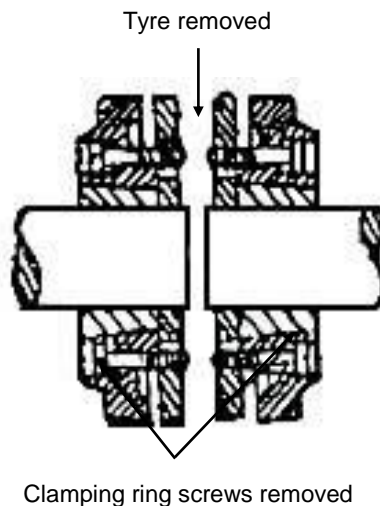

FIG 42.
- E. Remove the tyre. (Fig 42)